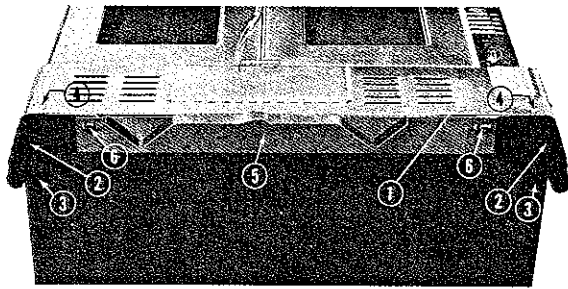
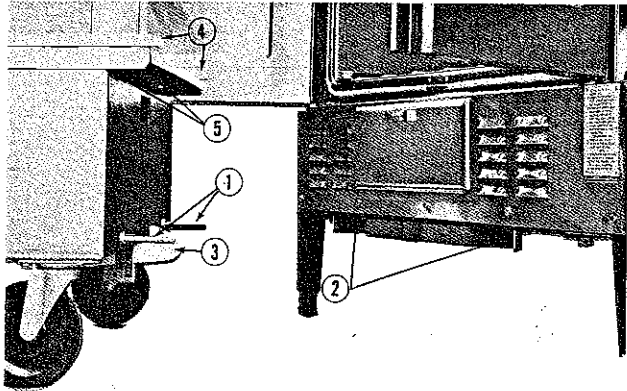
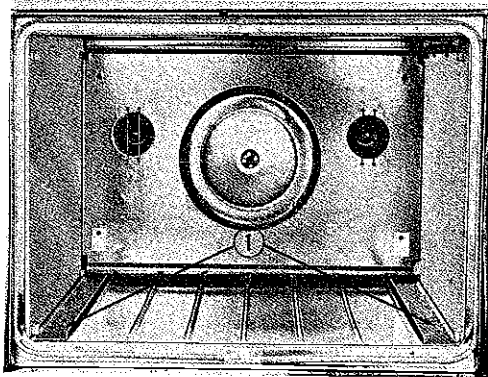

FIG. 18
FIG. 19
FIG. 20
1. First remove the combustion compartment cover (Fig. 18, No. 1). Tip the oven back and place the front legs (Fig. 18, No. 2) so as to line up with the three attaching bolt holes. Insert two of the $\frac{1}{2}$ " bolts through the leg attaching plate and thread into oven frame (Fig. 18, No. 3). Insert two $\frac{1}{2}$ " bolts through the corner of the frame from combustion side and thread into legs (Fig. 18, No. 4). Place docking assembly (Fig. 18, No. 5) on lower frame of oven, as shown, align slots with bolt holes and insert two $\frac{1}{2}$ " bolts (Fig. 18, No. 6) and thread into oven frame. Leave these bolts loose for later adjustment. When attaching docking assembly, make sure hooks on back side are placed above the angle iron on the oven frame.
2. After leveling, note that distance from bottom side of oven to floor underneath should be as close to 7" (178mm) as possible to facilitate docking alignment to transport cart. (See Figure 19.)
2. Move and latch transport cart into place at front of oven. The two alignment pins on front of cart (Fig. 19, No. 1) should line up with channeled openings in docking assembly (Fig. 19, No. 2). The locking bar (Fig. 19, No. 3) will also lock to docking assembly. If there is difficulty with the locking bar engaging the docking assembly, adjust the assembly forward or backwards to allow latching.
3. Align inner vertical edge of tracks on transport cart (Fig. 19, No. 4) with same vertical edge of tracks located on oven liner bottom. (Fig. 20, No. 1). This adjustment can be made by moving the docking assembly either left or right. With the docking assembly adjusted for both latching and alignment tighten the two $\frac{1}{2}$ " bolts (Fig. 18, No. 6).
4. The transport cart has been adjusted for height before being shipped, however, a final adjustment may be required at the installation site. The tracks on the transport cart should be the same height as the tracks on the oven liner bottom. This adjustment is made by raising or lowering the nuts on the four leveling screws located in each corner of the transport cart (Fig. 19, No. 5).